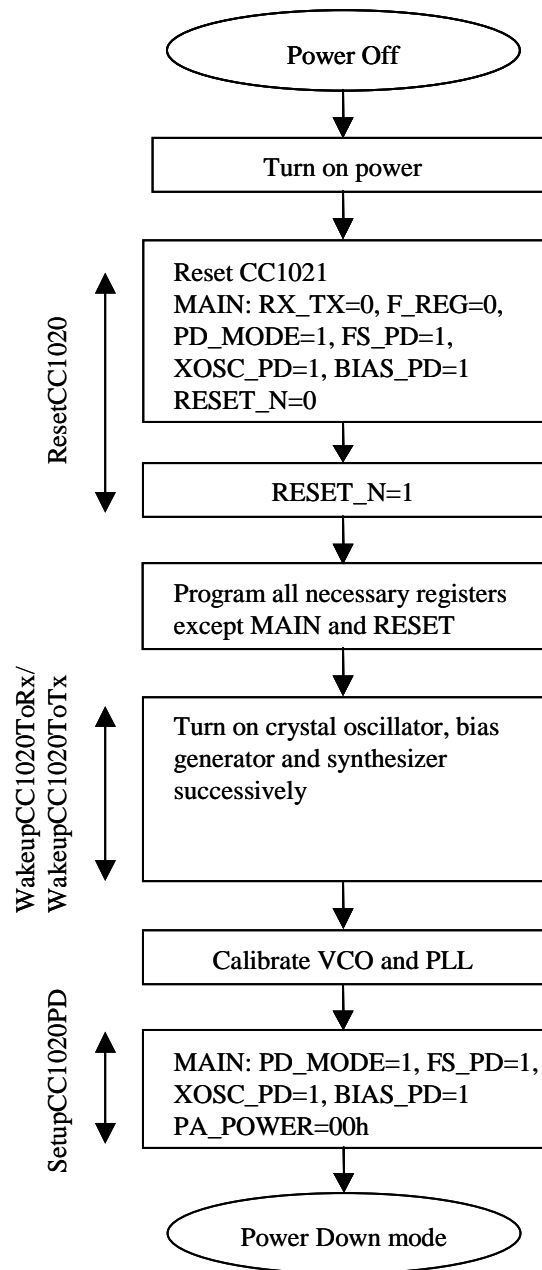

Figure 30. Initializing sequence
**CC1021** offers great flexibility for power management in order to meet strict power consumption requirements in battery-operated applications. Power down mode is controlled through the *MAIN* register. There are separate bits to control the RX part, the TX part, the frequency synthesizer and the crystal oscillator in the *MAIN* register. This individual control can be used to optimize for lowest possible current consumption in each application. Figure 30 shows a typical power-on and initializing sequence for minimum power consumption.